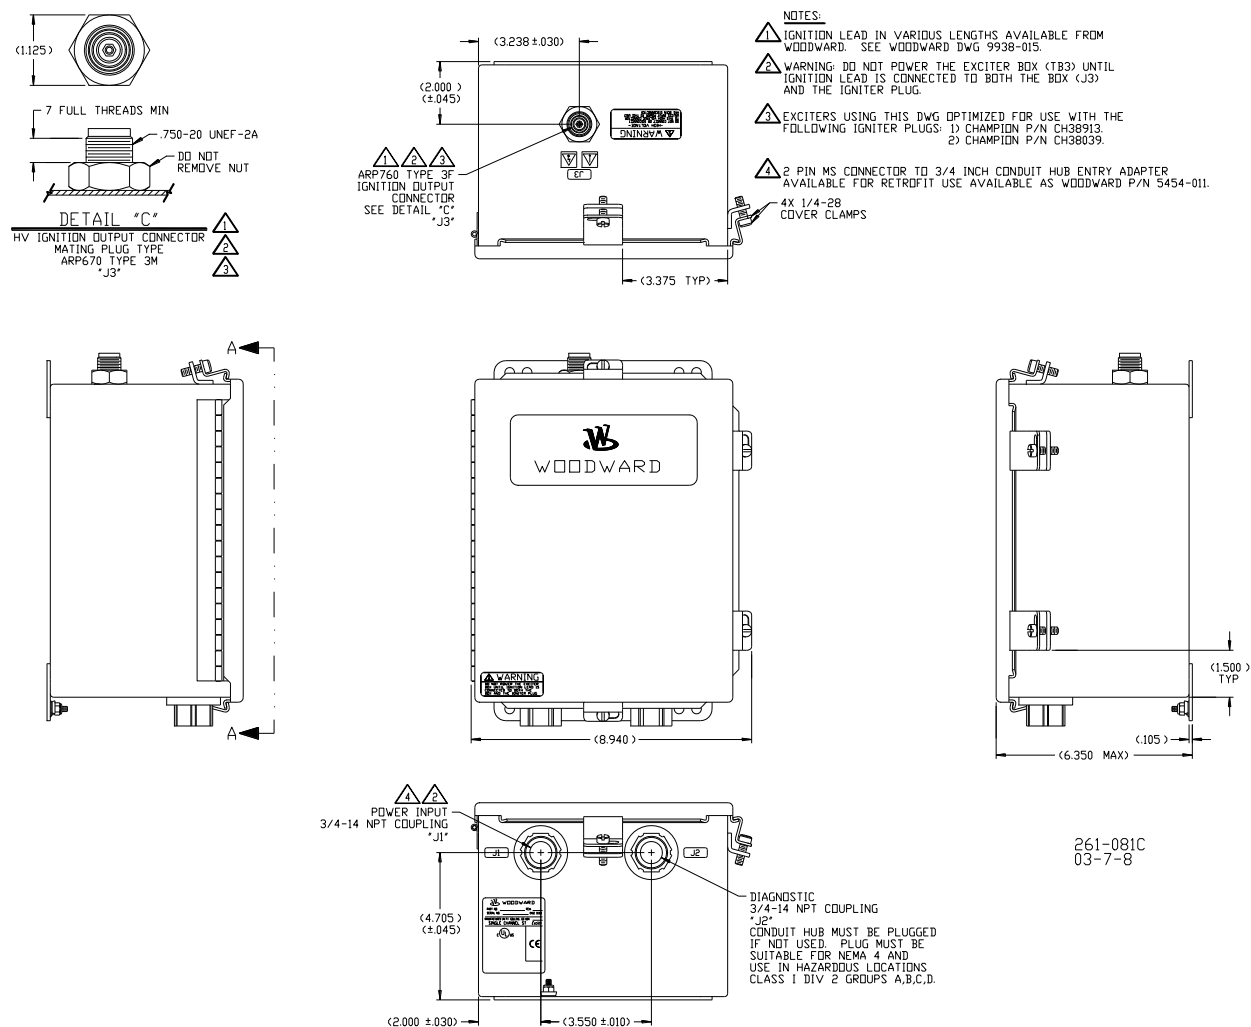

Figure 1-2. Outline Drawing
2. Attach the ignition lead end to the high energy ignition output ARP760 (see Figure 1-2 for details). Use a tool to fully seat the nut on the lead to the output connector, so it cannot be loosened by hand.